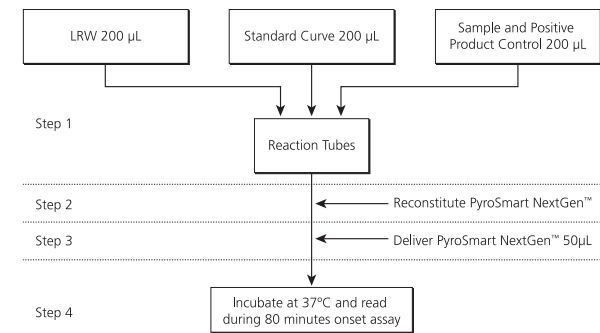

Figure 4: A Schema of the Test Procedure for Tube Reader Assays
- Prepare the test run as shown in Figure 4.